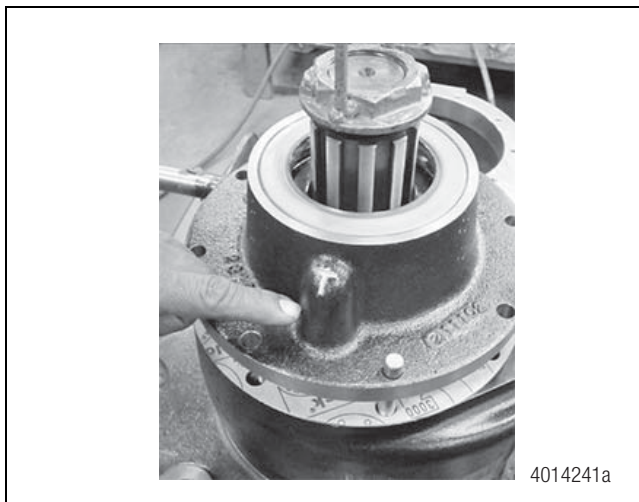

Figure 6.51
- Using a new gasket and eight cap screws, install the front output shaft assembly to the declutch housing. Torque to specification. Figure 6.51.